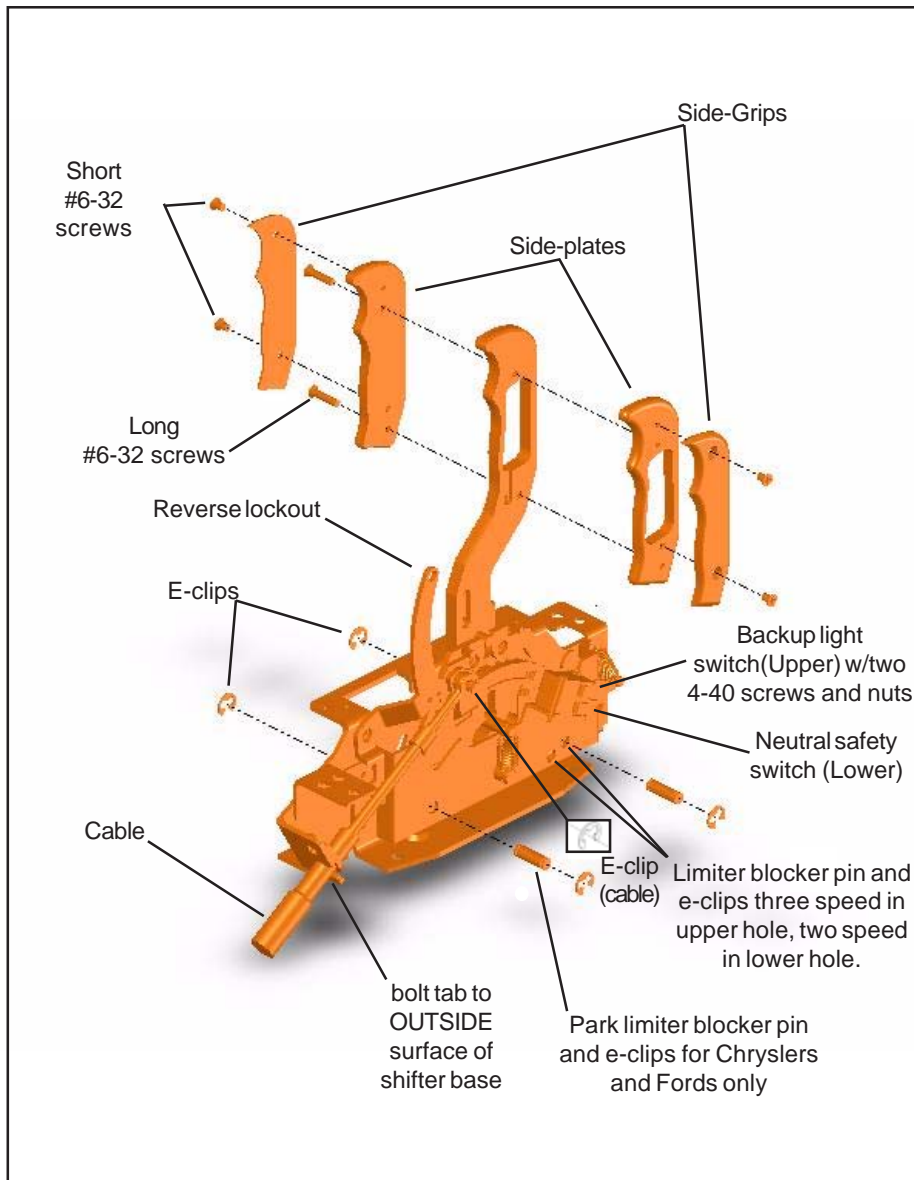

Figure 1
NOTE: If you are installing this shifter with a GM four speed automatic transmission, you must remove the three speed limiter blocker pin and the e-clips indicated in **Figure 1**. Removing this blocker pin gives the shifter four forward positions rather than three. For Ford AOD four speed automatic transmissions and Chrysler A-500 and A-518 four speed automatic transmissions do **not** remove this blocker pin, since
If you are installing this shifter with a Ford or Chrysler three or four speed automatic transmission you must install the Park limiter blocker pin and the e-clips as also indicated in **Figure 1**. This limiter limits the shifter travel into the Park position, so that it does not stretch the cable since Ford and Chrysler transmissions have less travel between Reverse and Park than GM transmissions do.
STEP 5. Install the cable on the shifter as shown in **Figure 1**. The cable attachment tab should be bolted to the outside surface of the shifter base using the supplied 1/4" X 1/2" bolt, lock washer and nut. Install e-clip to secure the cable.
STEP 6. Install the backup light switch and the neutral safety switch in place on the shifter mechanism as shown in **Figure 1**. Install them using the two supplied #4-40 screws, nuts and lock washers. If necessary, bend the fingers slightly so that they engage the slots. **Caution:** Overtightening the switch attachment screws will crack the switch housings.
STEP 11. If you have a four speed automatic transmission, be sure that you have removed the three speed limiter blocker pin shown in **Figure 1**. If you have a three
switch (See Figure 1). Tape the terminal connections and all other connections to prevent shorts.
STEP 17. Be sure that the Park limiter blocker pin and the three speed limiter blocker pin are both installed as shown in Figure 1. The Park limiter will prevent the shifter from additional travel beyond the Ford Park position. (GM transmissions have greater travel between Neutral and Park than Ford transmissions do). The three speed limiter blocker pin is required because all Ford three and four speed automatic transmissions have only three forward gear positions, even the four speed AOD.
the neutral safety wires to the **LOWER** switch and the reverse light wires to the **UPPER** switch (See Figure 1). Tape the terminal connections to prevent shorts. Reconnect the battery ground cable, disconnect the coil wire and set the parking brake. Check the switch operation by attempting to start the motor in each shifter position. **The starter must crank only when the shifter is in the Park or the Neutral position.** Check the backup light operation when the shifter is shifted to the Reverse position. Adjust the switches if required. Reconnect the coil wire. Go to **Step 37.**
STEP 22. Be sure that the Park limiter blocker pin and the three speed limiter blocker pin are both installed as shown in **Figure 1**. The Park limiter will prevent the shifter from additional travel beyond the Chrysler Park position. (GM transmissions have greater travel between Neutral and Park than Chrysler transmissions do). The three speed limiter blocker pin is required because all Chrysler three and four speed automatic transmissions have only three forward gear positions, even the four speed A500 and A518.
STEP 24. Neutral safety/backup light switch. '66-'68: The neutral safety switch will continue to function normally. It will not be necessary to hook up the neutral safety switch wires on the shifter. Disconnect the battery ground cable before wiring the backup light switch. Locate the original backup light switch on the steering column or the console shifter. Run these wires to the **UPPER** switch on the **B&M Stealth Pro Ratchet Shifter (See Figure 1)**. Reconnect the ground wire and check the light for proper operation. Adjust the switches on the shifter if required.
STEP 35. Be sure that the two speed limiter blocker pin and e-clips are installed as shown in Figure 1. The two speed limiter blocker pin is required because the Powerglide has only two forward gear positions.